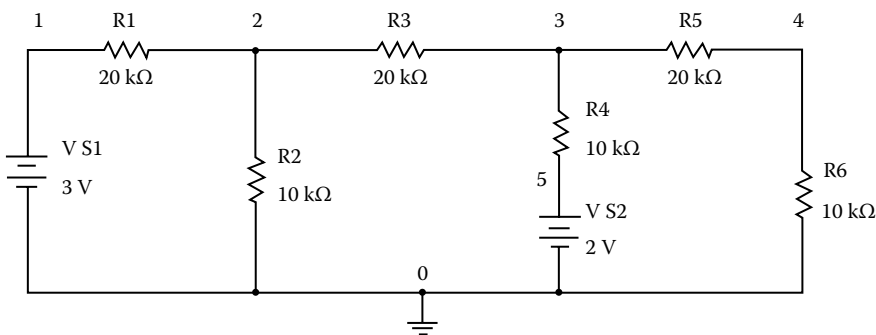

FIGURE P2.5
Problem 2.5 (1) Build the circuit shown in Figure P2.5, and use the Analog Discovery board to obtain the voltage across the resistor R6. (2) Set the voltage VS1=0 V, VS2=2 V, and determine the voltage across R6. (3) Set the voltage VS1=3 V, VS2=0 V, and determine the voltage across R6. (4) Use the results of parts (1), (2), and (3) to demonstrate the Superposition Theorem.